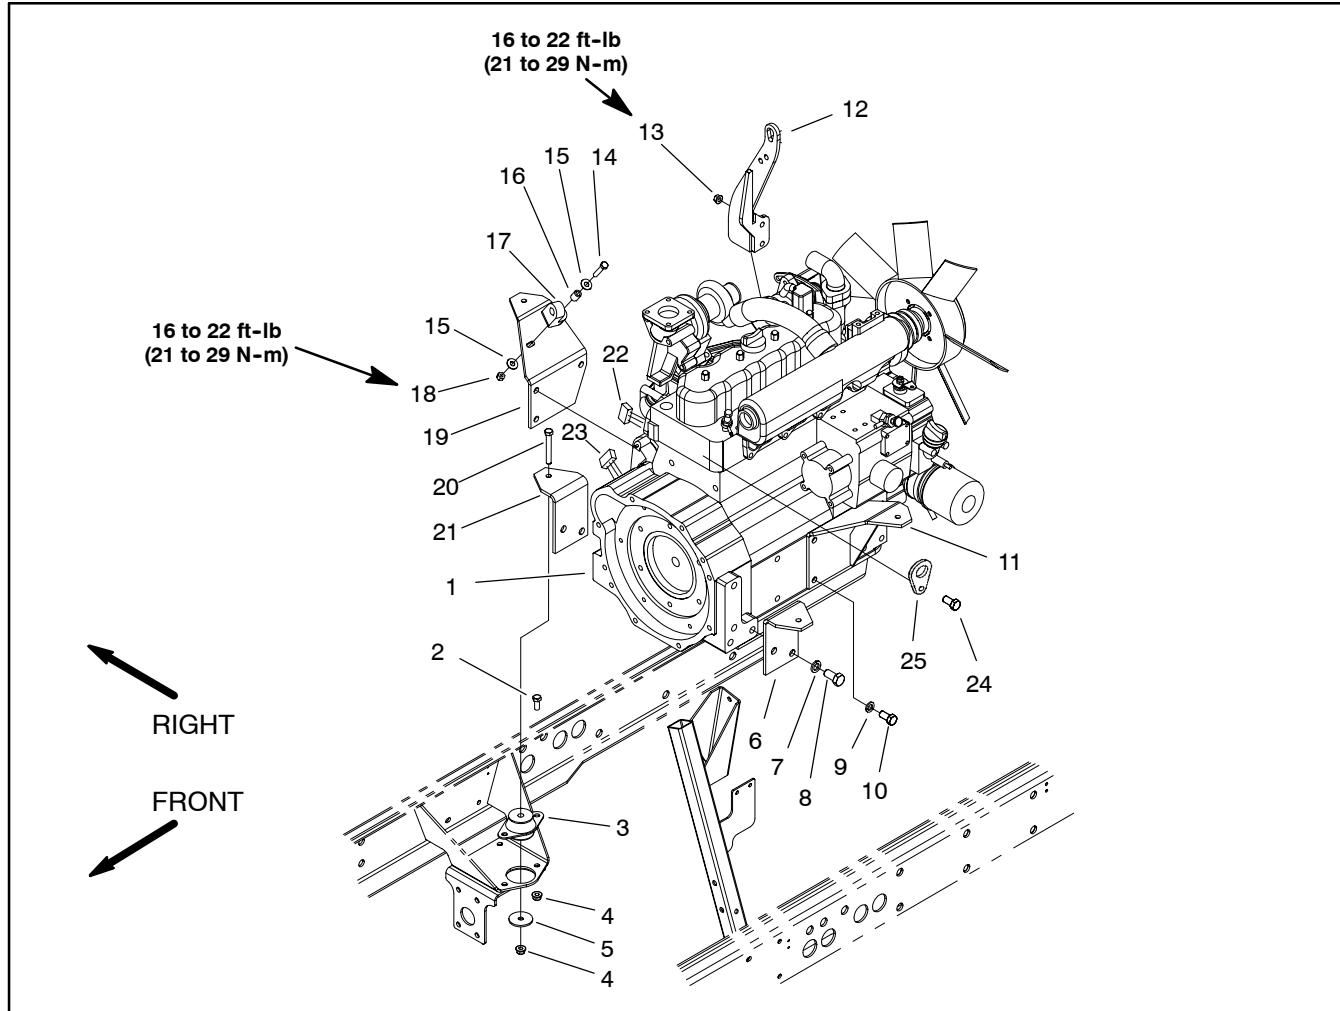
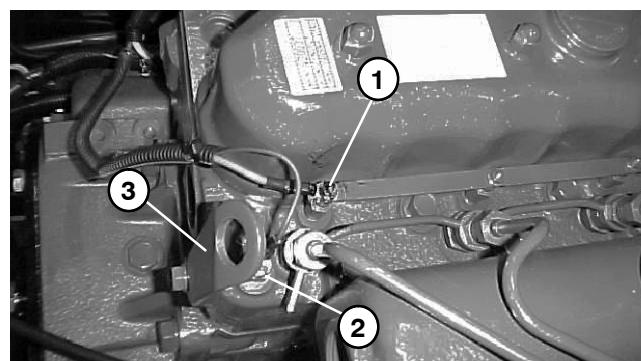

Figure 11
Figure 14
- C. The high temperature shutdown switch and glow plug connection (Fig. 14).
14. Connect hoist or lift to the front (Fig. 11) and rear (Fig. 14) lift tabs on engine.
17. If necessary, remove engine mounts from the engine using Figure 11 as a guide.
1. If removed, install engine mounts to the engine using Figure 11 as a guide.
2. Connect hoist or lift to the front (Fig. 11) and rear (Fig. 14) lift tabs on engine.